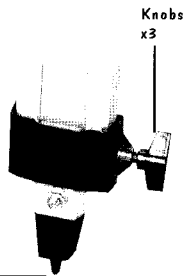
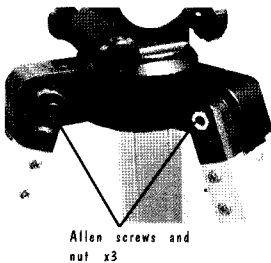

Fig.2 Tripod leg base, each has one adjusting knob.
Fig.3 Each leg tightens up to the tripod top by an Allen screw and nut.
1. Locate the three legs of the tripod and adjust the three knobs (**Fig.2**) at the bottom of each leg and adjust to your required height. You should now be able to move the legs together and apart quite easily without any undue force. To adjust the tension of each leg tighten or slacken the Allen screws in (**Fig.3**).